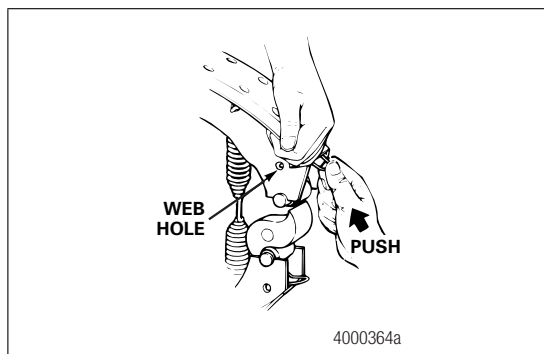

Figure 5.17
5. Push the brake shoe roller retainer into the brake shoe until the ears lock into the shoe web holes. Figure 5.17.